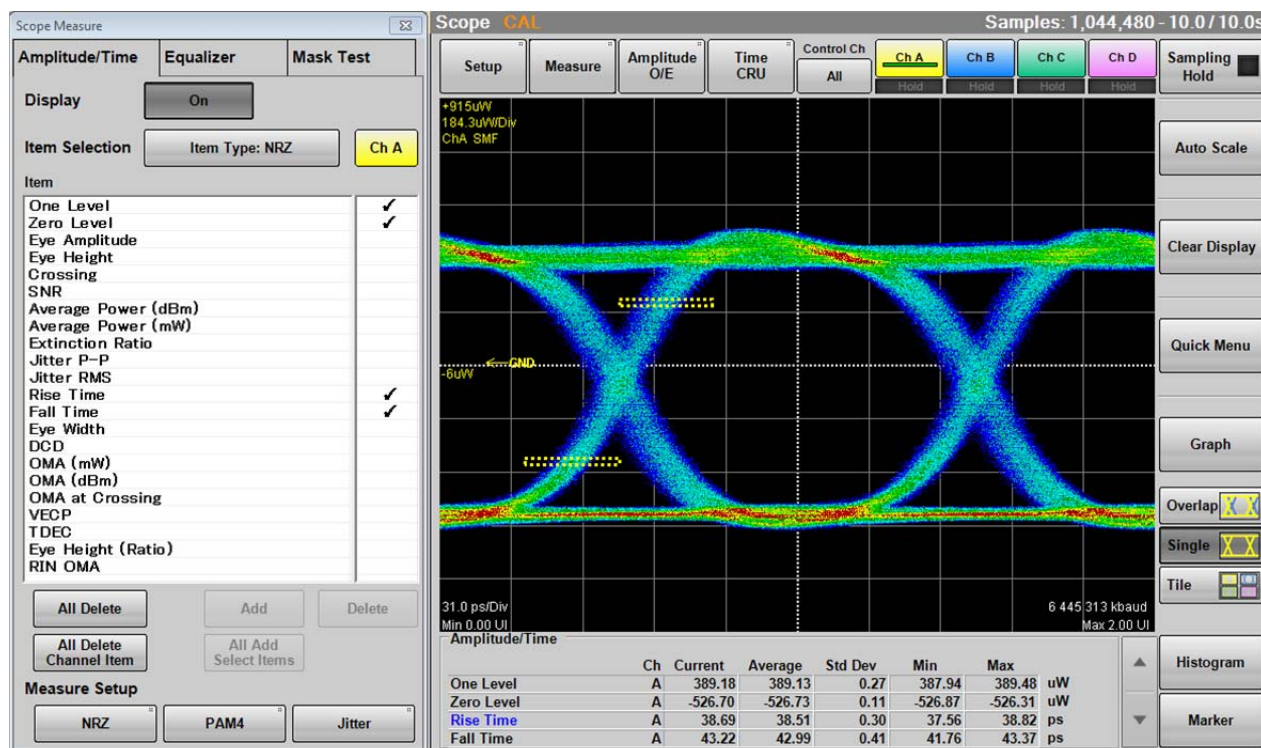

Figure 6.9.1-2 Display Example of Measurement Area
2. Click **Offset from Crossing** and **Width** of EYE Boundary and set the values respectively. Refer to “Figure 6.9.1.1-2 Setting Item of EYE Boundary”.